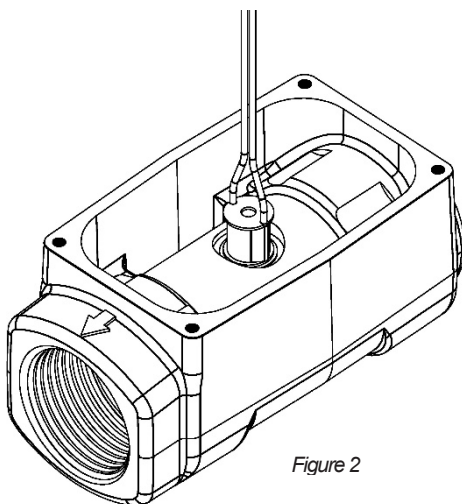

Figure 2
4. Adhere the coil / glue dot combo to the coil counter bore surface previously cleaned, visually centered (see Figure 2). **NOTE: The glue dot is permanent adhesive and the coil cannot be maneuvered once contact is made with the counter bore surface.** Press firmly on the top of the coil with finger or other object to ensure it is fully adhered to the surface.